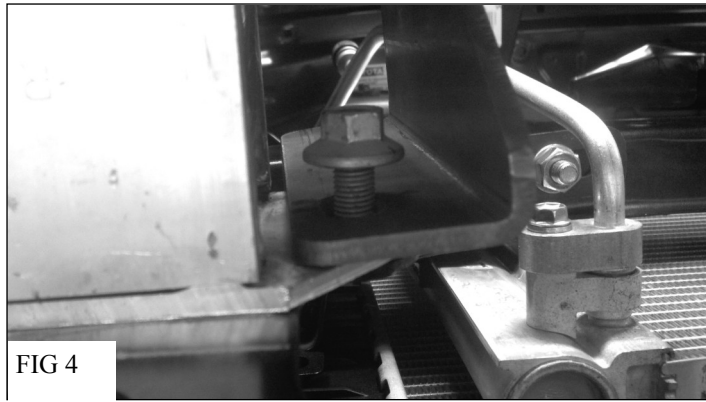

FIG 4
4. Reuse the factory flange nut removed in step 2 and install the passenger side bracket to both the bumper support stud and bolt plate using the supplied hardware. Do not fully tighten at this time. (fig 4)